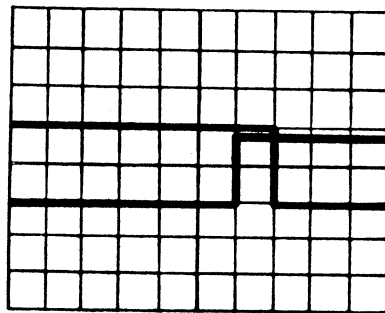

Figure 4-8. Track Zero Switch Test Waveform
- f. Observe the waveform on channel 2. Figure 4-8 shows alternate sweeps of the signal. The track 0 switch and stop settings are acceptable if the high-to-low and low-to-high transitions occur within two major divisions (4 ms) of each other on alternate sweeps. If so, skip step g and proceed directly to step h; if not, proceed with step g.